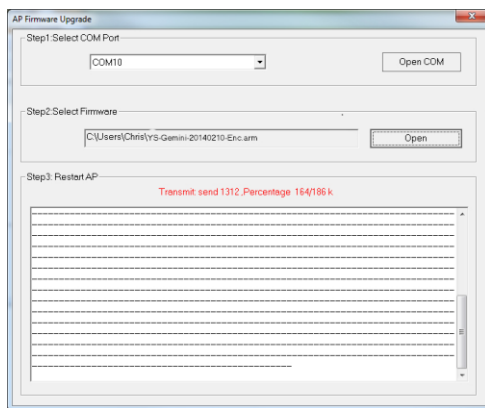

Figure 69
8. Power up the flight controller and to wait for the automatic upgrade process to activate, as shown in Figure 69.